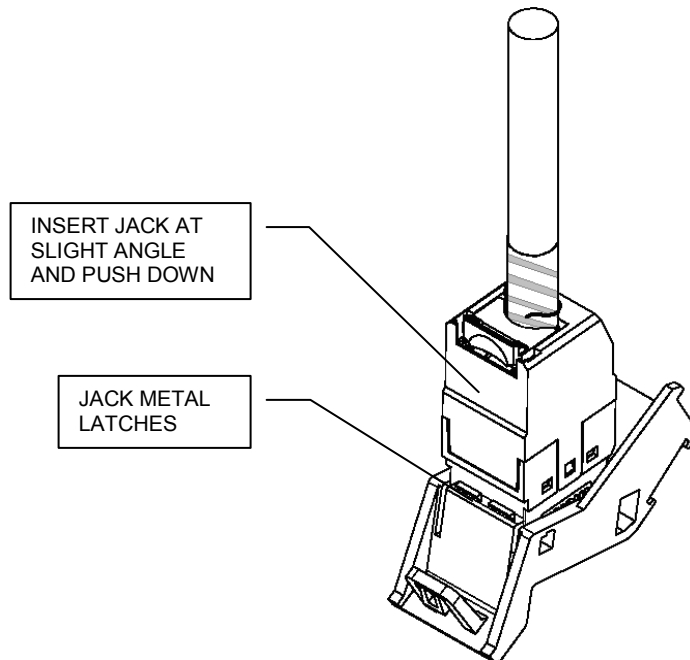

Fig. 9
2. Slide in jack into module port opening at slight angle (see Fig. 9)
4. Snap jack into panel by pushing down on top of jack (see Fig. 9)